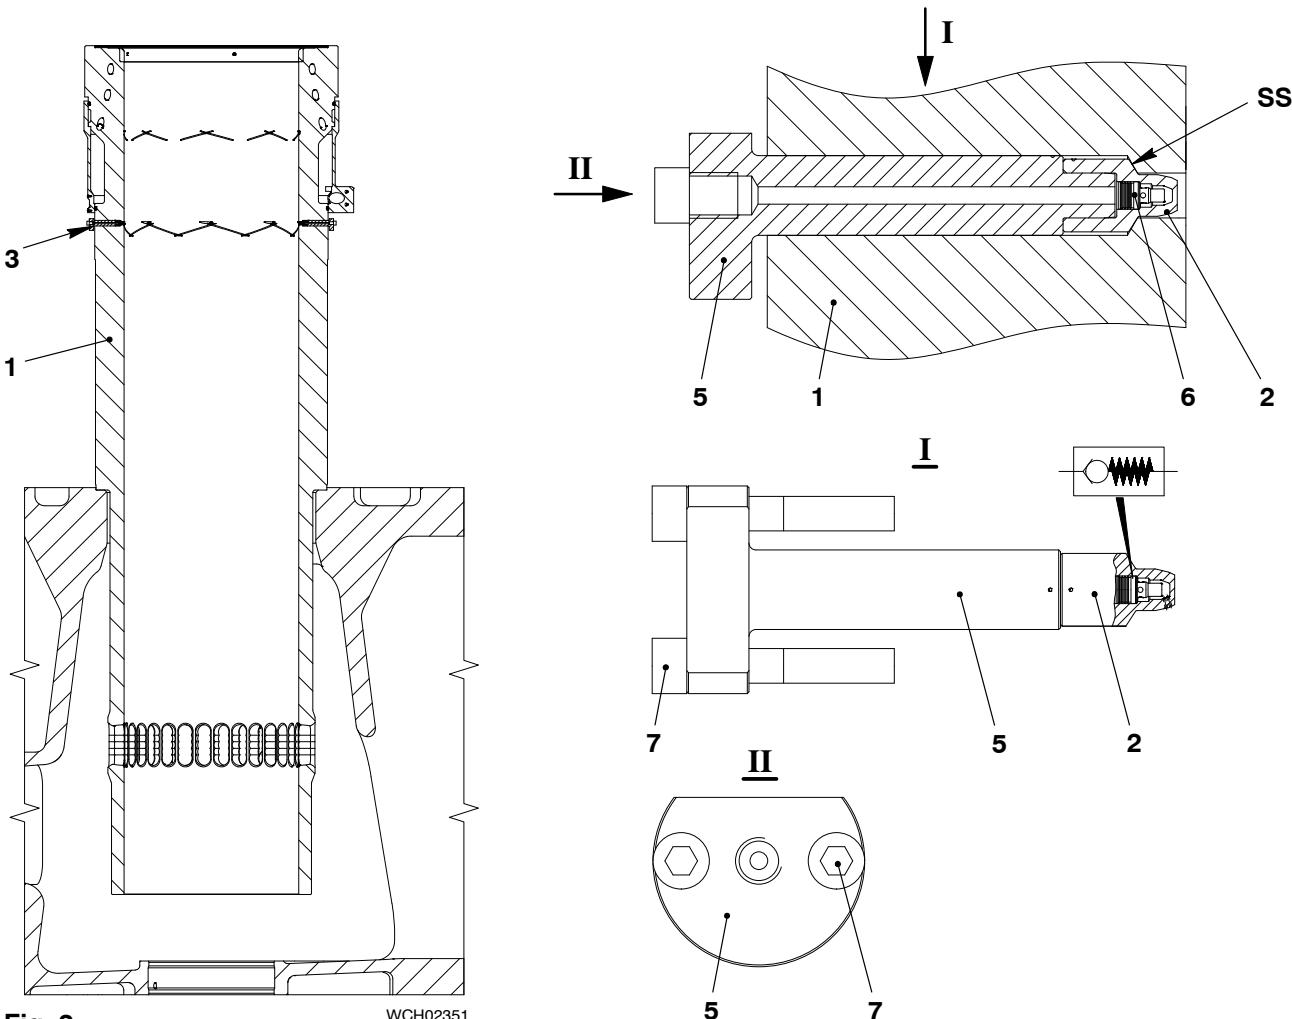

Fig. 2
You do a function check to make sure that the non-return valve (6, Fig. 2) operates correctly. The pressure that opens the non-return valve (6) is **5 bar**.